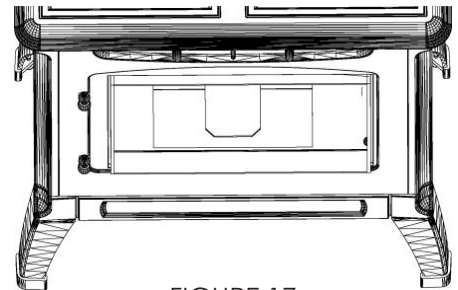

FIGURE 17
- Scrape ash in firebox into the ash bin through the opening in the bottom of the firebox or vacuum to remove ashes (see Figure 17). **WARNING:** Make sure ashes are cool to the touch before using a vacuum. See "VACUUM USE".